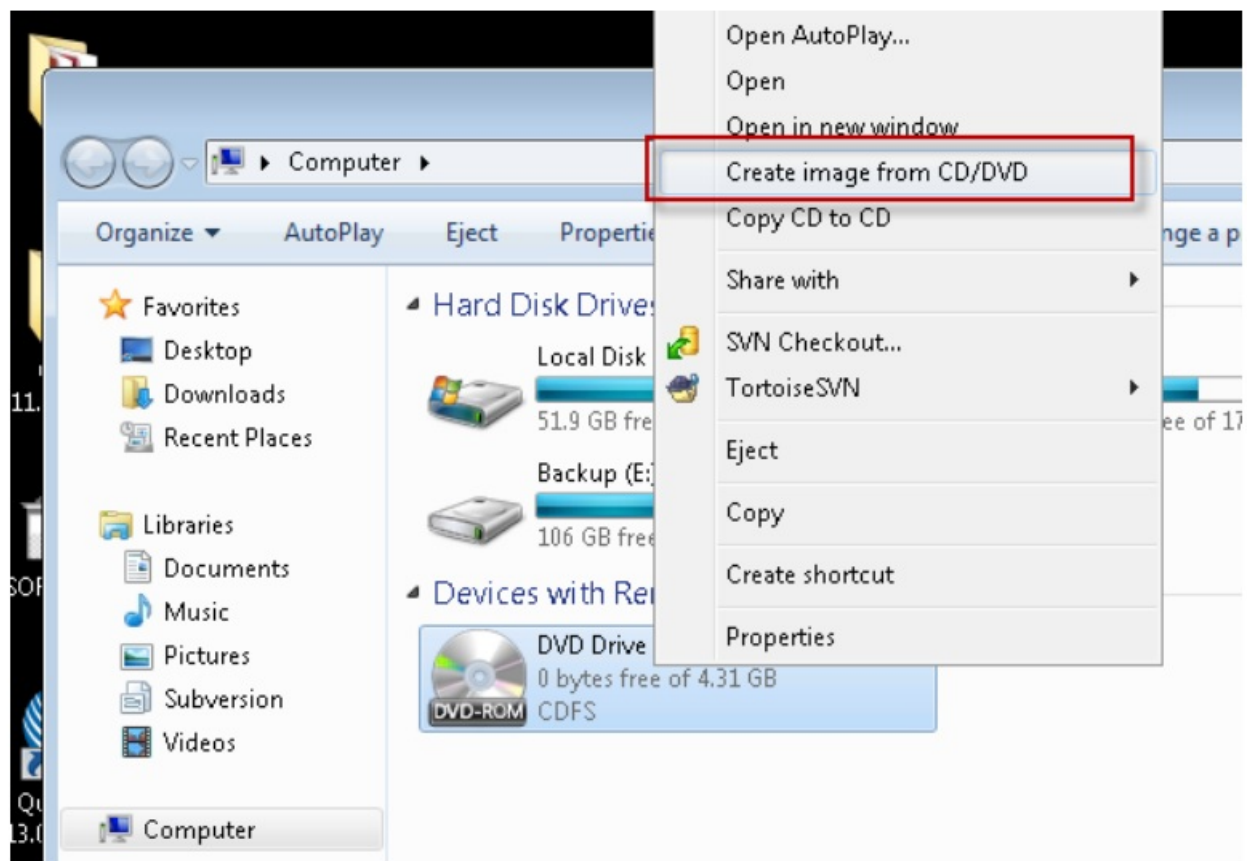

Figure 2-1 Create image from CD/DVD
5. Open "My Computer" and right-click on the Windows 7 installation DVD to select "Create image from CD/DVD, as shown in Figure 2-1.